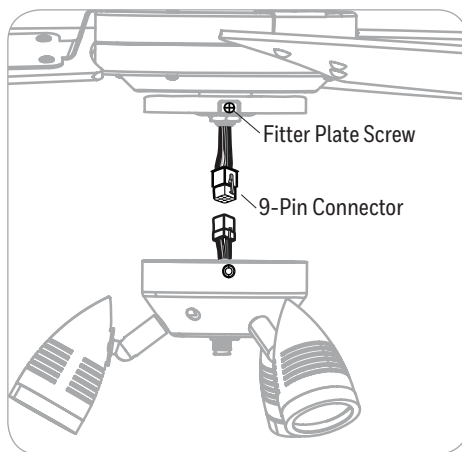

Figure 5.5
5. Remove the three fitter plate screws preassembled to the fitter plate. Then, connect the 9-pin connector from the fan to the 9-pin connector from the light kit. Lift the light kit over the fitter plate and secure using the previously removed fitter plate screws (Figure 5.5).